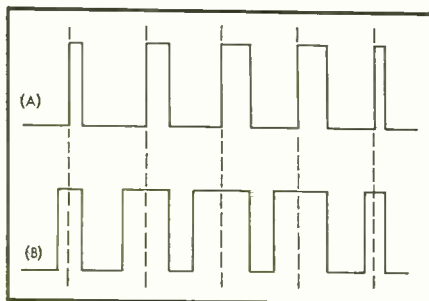
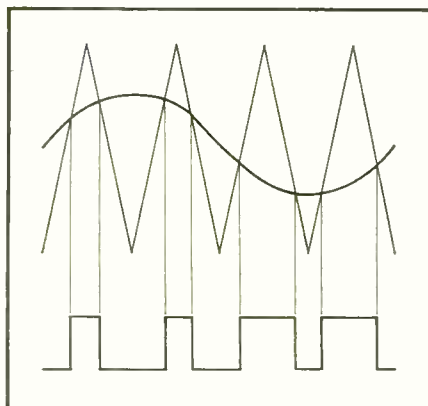

Fig. 1. Single- and double-edge modulation.
Fig. 3. Use of a symmetrical sawtooth for double-edge modulation.
This theater, located at 6th Ave. and 54th St. in New York City, was built for "Flo" Ziegfeld in 1927 and is now owned by Billy Rose. In effect, it is a deep oval dome about 100-feet wide and 75-feet from the stage to the back of the orchestra. (See Fig. 1.) On top of this dome, resting on it like a hat, is a smaller dome. At the rear juncture of the two domes is a large glass viewing panel, behind which is Mr. Rose's office. The last row of the balcony begins just below this point. The balcony slopes steeply down for about 75 feet with its first row terminating about 35 feet from the stage. The seating capacity is 856 in the orchestra and 722 in the balcony; a total of 1628.
Fig. 1. Side view of the Ziegfeld theater showing location of the column speakers. Only one under-balcony speaker is shown although there are actually two, one at each side. The drawing is not to scale.
The first point is that we may modulate either one edge of the pulse or both. In *Fig. 1* these two kinds of modulation are shown, with only the trailing edge of the pulse in (A) modulated, while both edges are modulated in (B). If the single-edge modulated pulses are inverted and clamped at the bottom we shall have the leading edge modulated. Now this is not just an academic point, put in to show you how clever I am. There is a very real difference between these two methods of modulation. The lower sidebands of the first modulation group in the spectrum (see *Fig. 3* of last month's article) are very much smaller. You will remember that these sidebands occupy more bandwidth than the simple sum and difference range of amplitude modulation and that if they extend down into the audio band they will produce distortion. Without doing a great deal of mathematics for particular cases it isn't easy to give a firm figure for the difference, but it would appear, from some